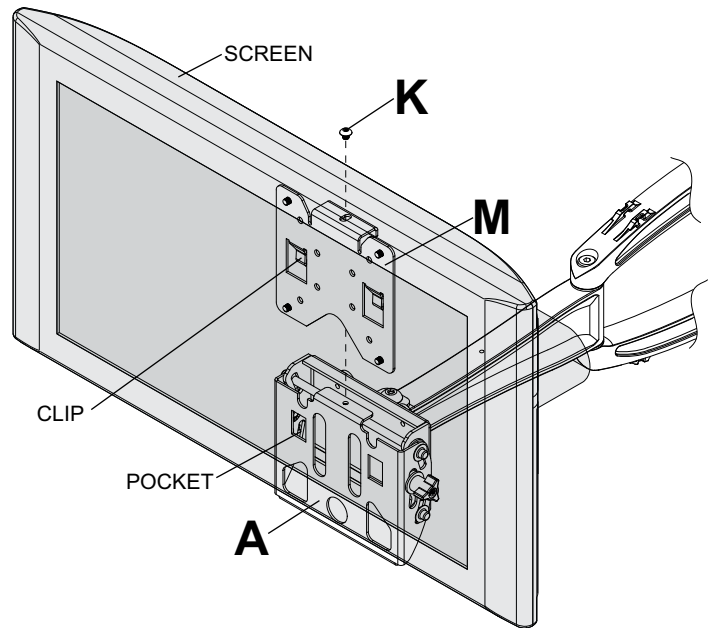

fig. 3.3
- 3** To attach screen to wall mount (**A**), lower hook bracket (**M**) into pockets of wall mount. Once clips are engaged, push down to seat clips into pockets. Insert and tighten M5 phillips screw (**K**) to lock screen to wall mount as shown in figure 3.3.